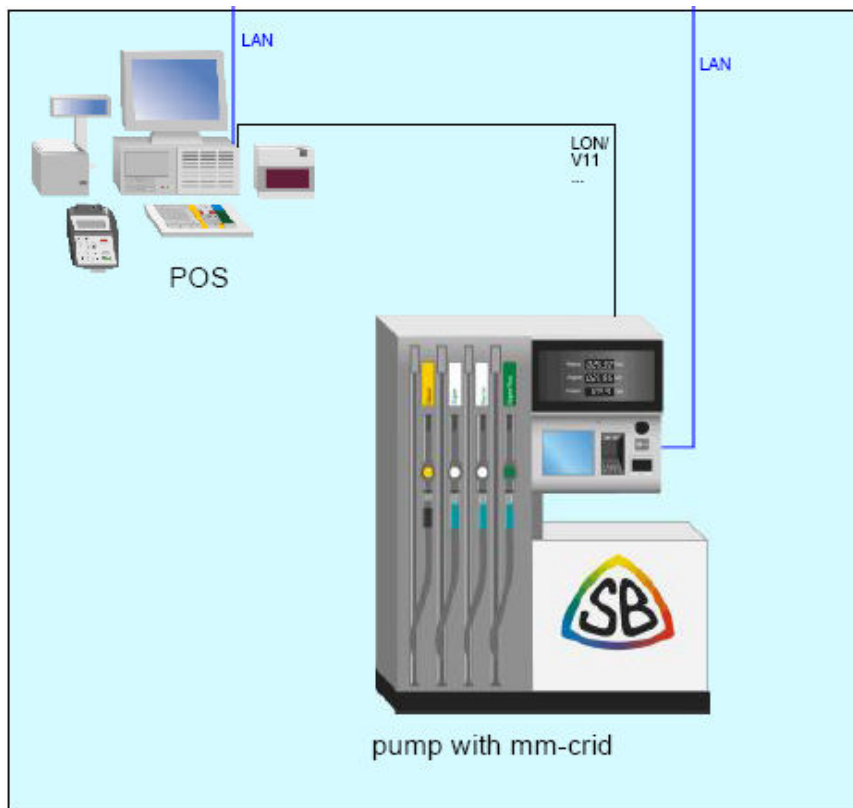

Figure 3 CRID Lancom and CRID Multimedia configuration
- Figure 3 CRID Lancom and CRID Multimedia configuration